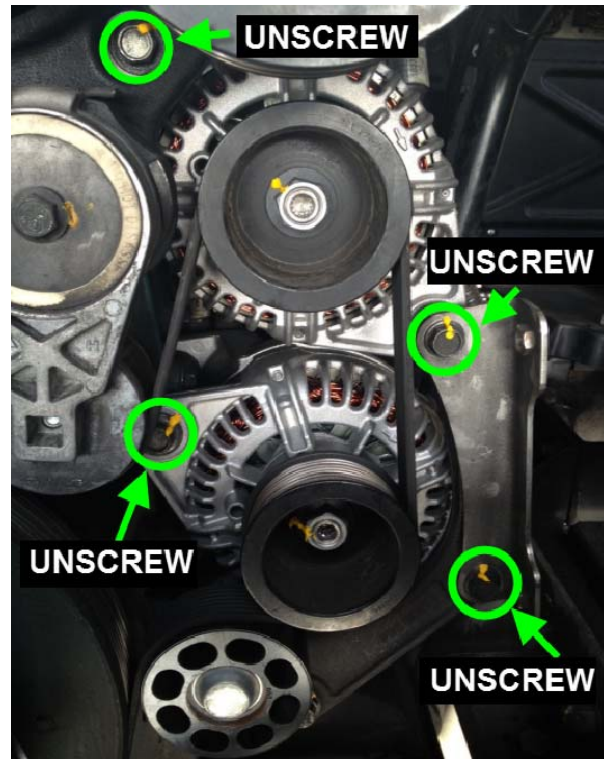

FIGURE 3
5. Remove the existing alternators. To do so, unscrew identified mounting bolts on FIGURE 3 and retain for reuse.